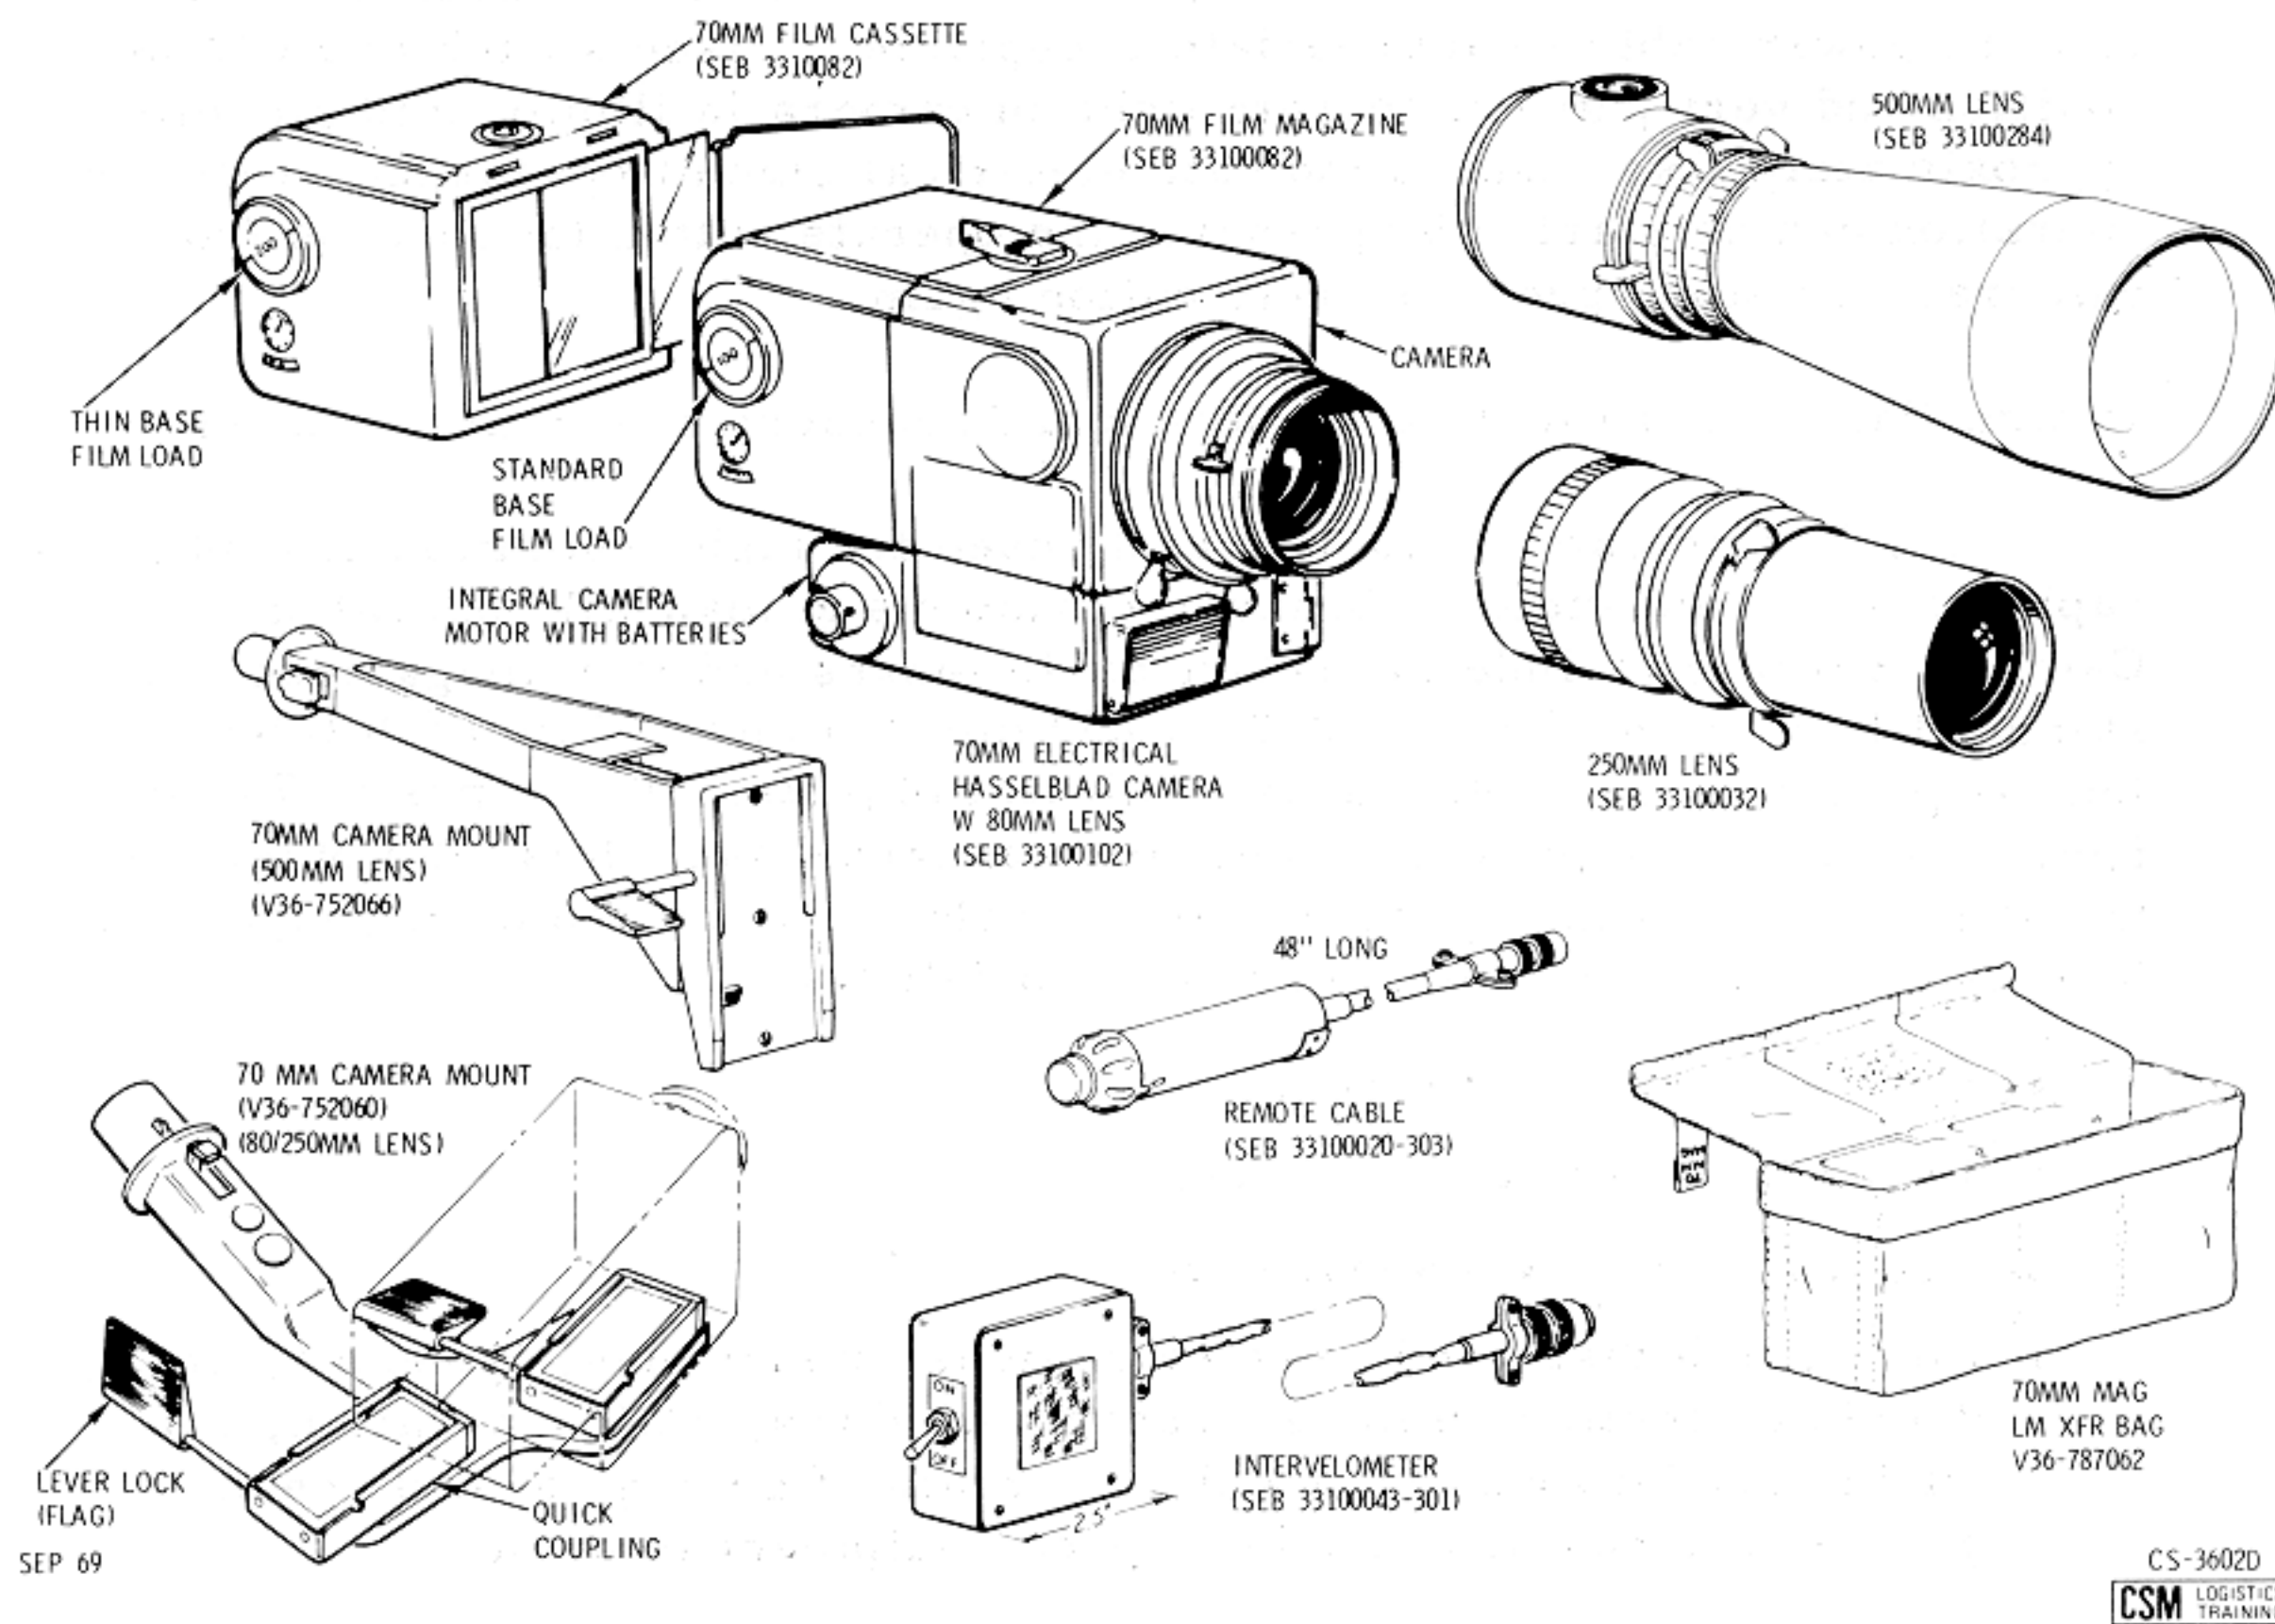

Figure 2.12-34. 70 mm Hasselblad Electric Camera and Accessories
2.12.5.3.2 70 mm Hasselblad Electric Camera and Accessories (Figure 2.12-34).
500 mm f/8 Lens. (Figure 2.12-34) The 500 mm lens is used for telephotography such as lunar landscape, lunar mapping, and targets of opportunity. It produces a 6X magnification over the standard 80 mm lens and its field of view is 7 x 7 degrees. The 500 mm lens focuses from 28 feet to infinity but because of mounting limitations in the crew compartment and lens travel toward the window during focusing, its mounted focusing capability is approximately 100 feet to infinity. The lens has a built in shutter with speeds from 1 second to 1/500th of a second.
Remote Control Cable. (Figure 2.12-34) The function of the remote control cable is to actuate the shutter from the left couch while sighting targets through the COAS in the left rendezvous window. The cable is 48 inches long with a handle and button at one end and a connector at the other.
70 mm Camera Mount for 500 mm Lens. (Figure 2.12-34) The camera mount is L-shaped with a quick coupling on one end and a round stem with a latch at the other. The mount stem will insert in the socket marked EHC MOUNT ATTACH (500 MM LENS) adjacent to the right side of the hatch frame on the girth ring. When installed with the camera, the 500 mm lens centerline will be aligned  $10 \pm 1$  degrees off the X-axis toward the -Z direction.